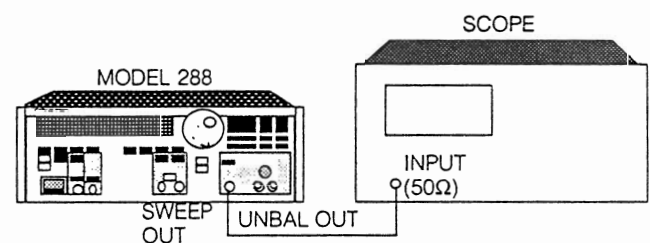

Figure 2-4. Waveforms/Sweep Verification
2. Connect the Model 288 and test equipment as shown in figure 2-4.
2. Connect the Model 288 and test equipment as shown in figure 2-4. Verify 50Ω source into 50Ω feed-thru termination.